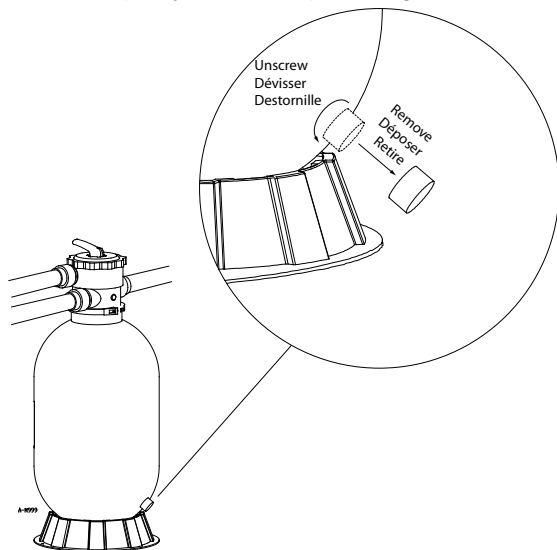

Figure 7
- Unscrew the drain cap at the base of the filter tank (Figure 7) and allow the tank to drain completely. Leave the cap off during winter.